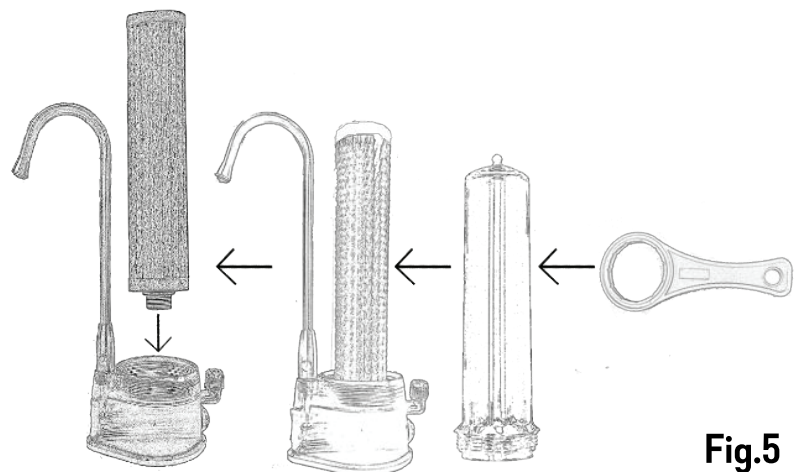

Fig.5
6. Screw the cartridge (Disruptor/Ceramic) back to the “Cavity”. (Fig. 5)